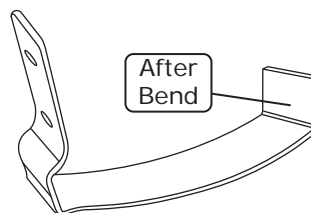

Figure 1b
4. Remove the passenger-side OEM vent control (discard). Close and seal the kick panel vent with silicone (See Figure 1b, below).
9. Remove the blower inlet flange (discard) and reuse the OEM screws to mount the fresh air cap (See Figure 1b, below). Seal with silicone (See Figure 1b, below).